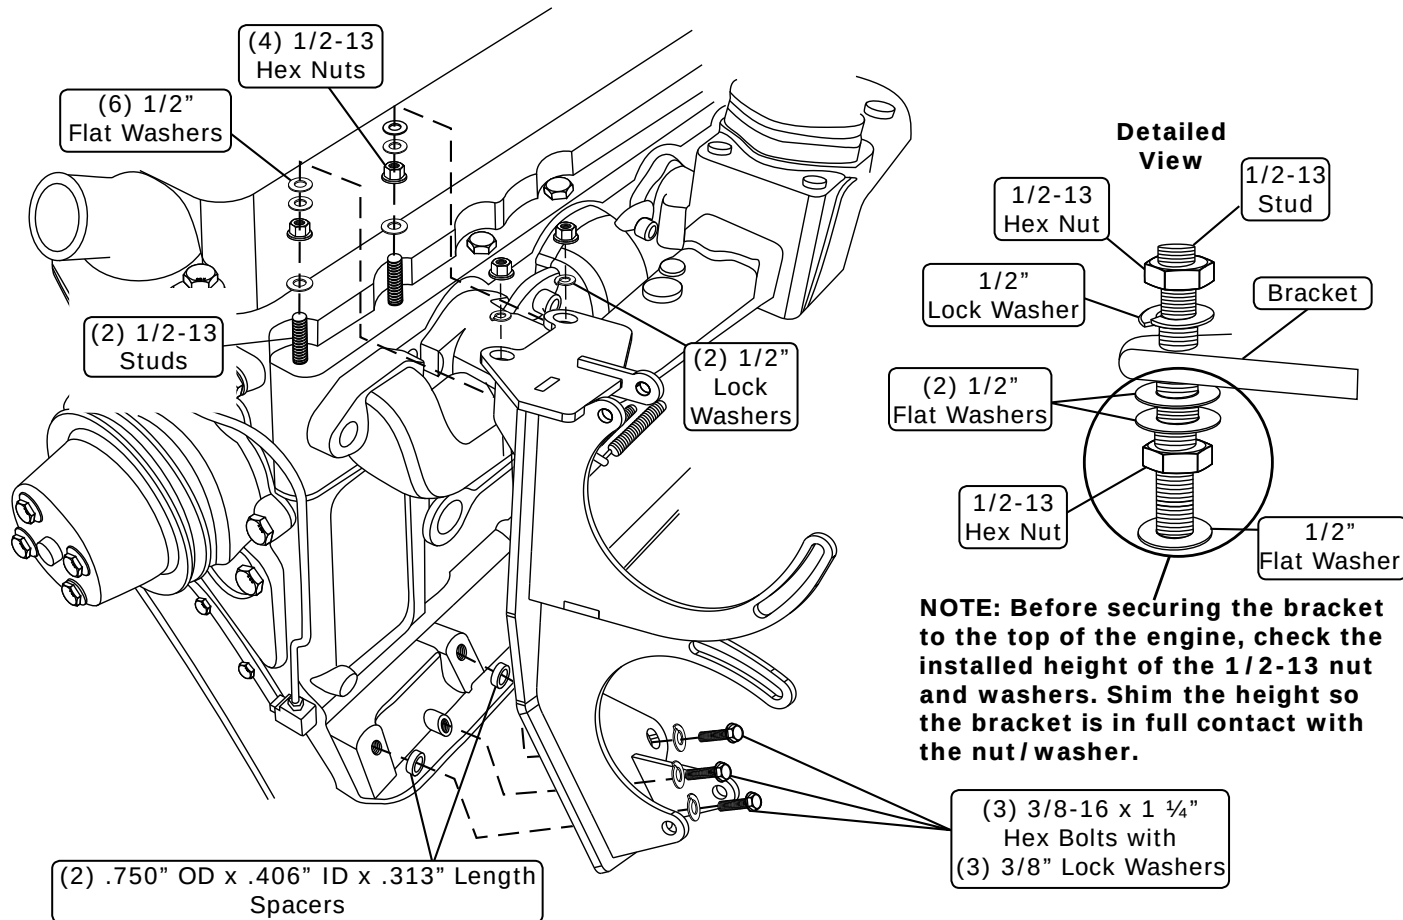

Figure 2
1. Install the compressor/alternator mounting bracket onto the engine using (3) 3/8-16 x 1 1/4" bolts, (3) 3/8" lock washers and (2) .750" OD x .406" ID x .313" length spacers for the lower mounting provisions. Install (2) 1/2-13 studs, (6) 17/32" flat washers, (2) 1/2" lock washers as shown in figure 2, below. **NOTE: Use thread sealant on the 1/2-13 studs before inserting them into the engine block. Insert the stud to the original bolt depth (Approximately 3.25"). Torque nuts to 90-95 ft. lbs.**